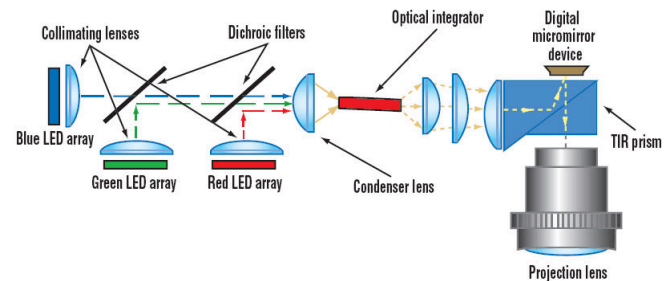

Figure 5. Simplified optical module diagram.
- **DLP Optical Module:** The DLP DMD, along with its associated illumination sources, optical elements, and necessary mechanical components are combined into a compact and rugged assembly known as an optical module or light engine (see Figure 5).